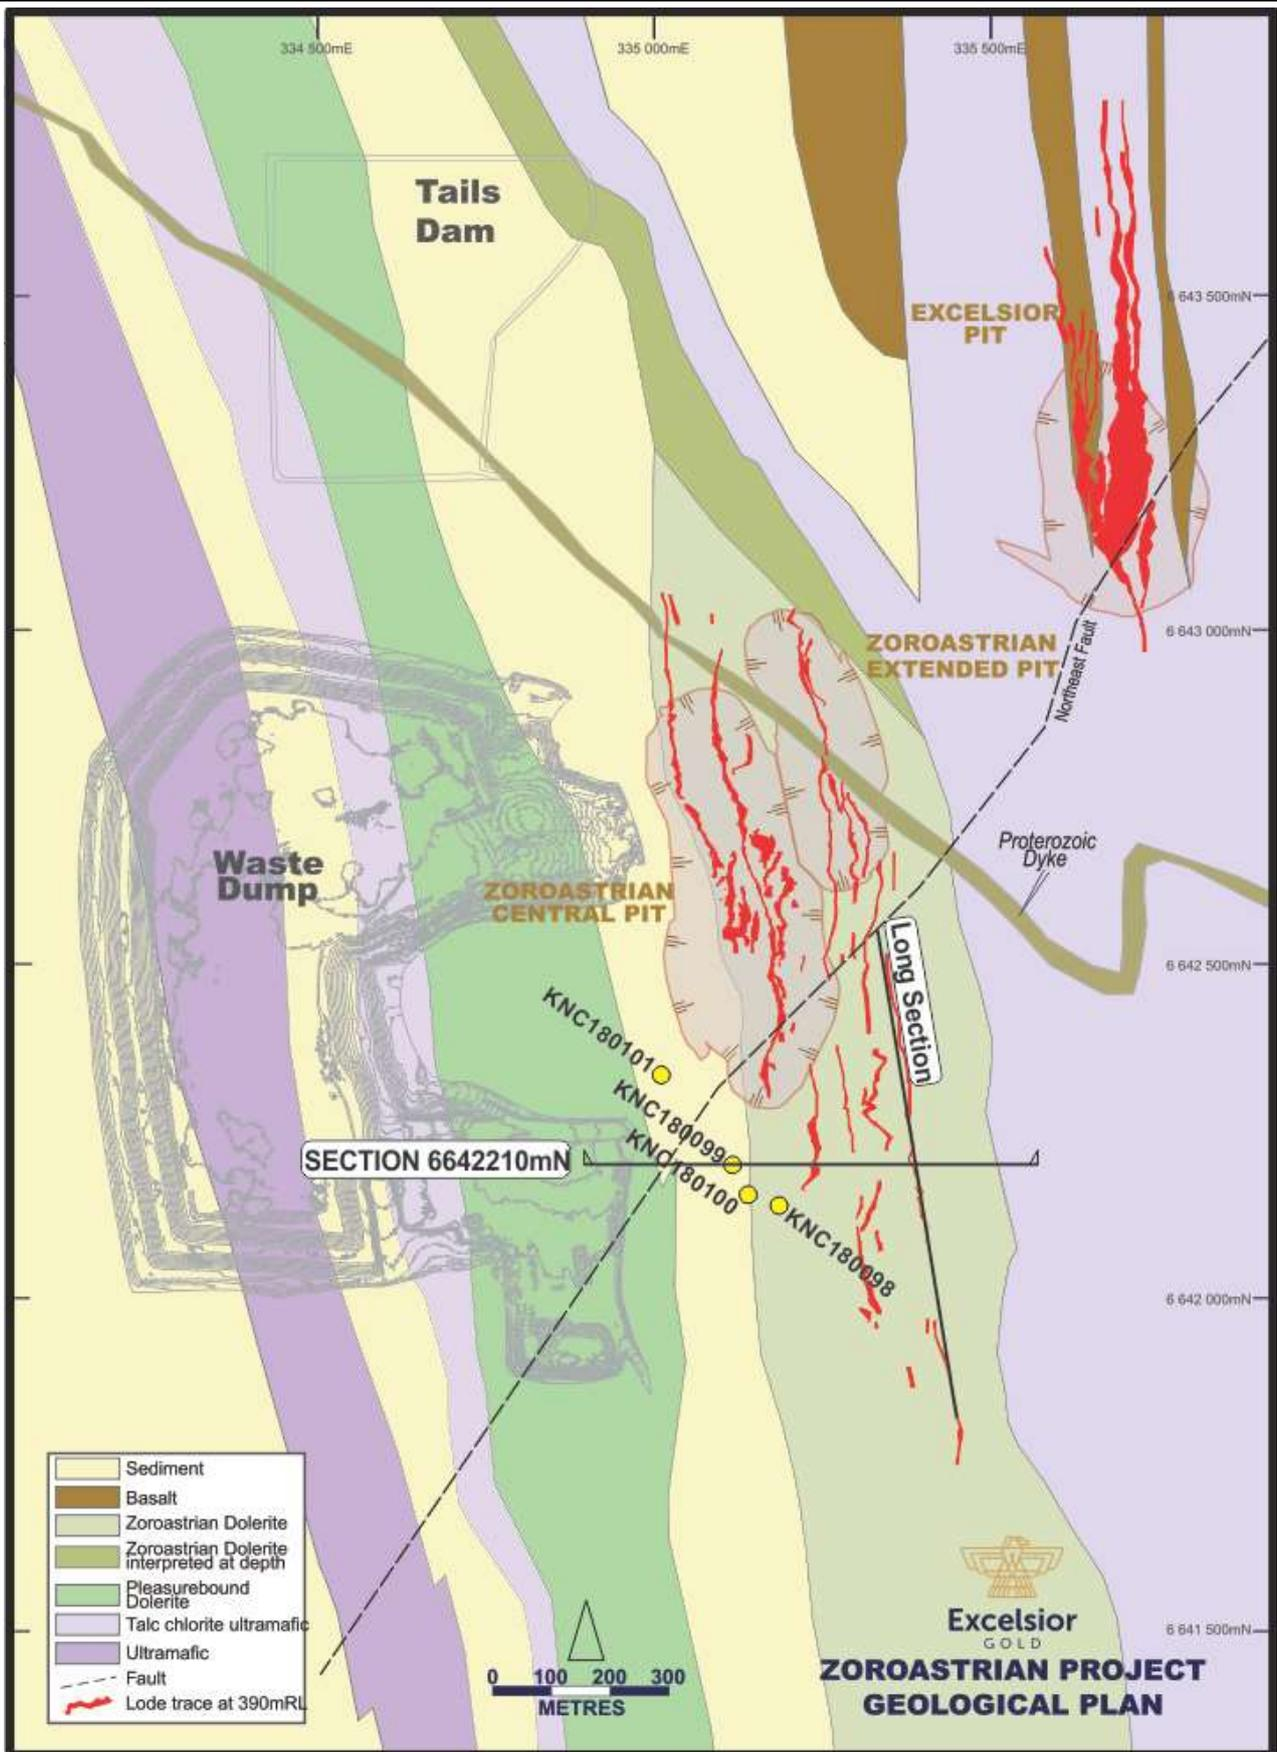

Figure 5: Zoroastrian Geology
A short program of four Reverse Circulation (RC) drill holes for 1,271m (see figure 5) successfully targeted mineralisation extensions for one of the multiple high-grade lodes at the Zoroastrian deposit. The targeted lode was the South Zoroastrian Lode, which daylights some 500m south of the recently completed Zoroastrian Central Pit and plunges to the north at about 40-50 degrees.